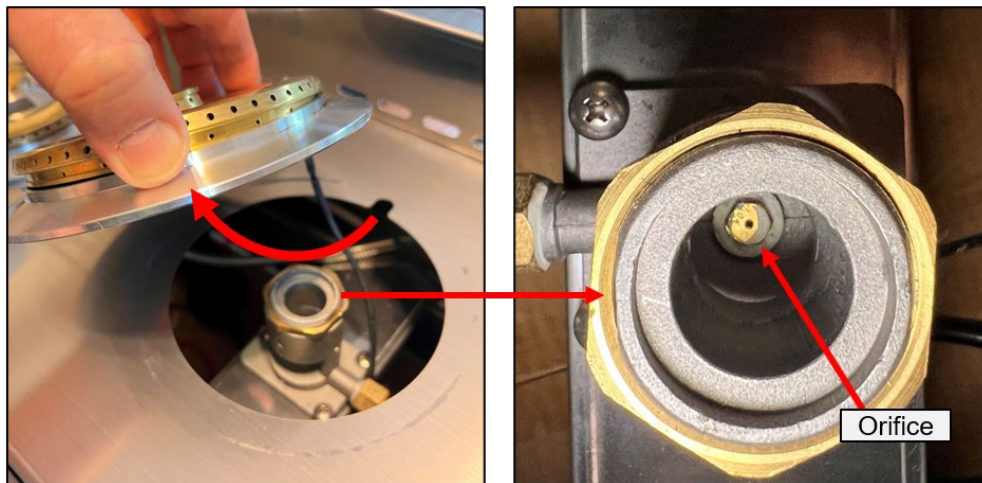

Figure 18 Burner Orifice Leak Test
6. Look below the burner (Figure 18) and spray the orifice with soapy water to check for bubbles